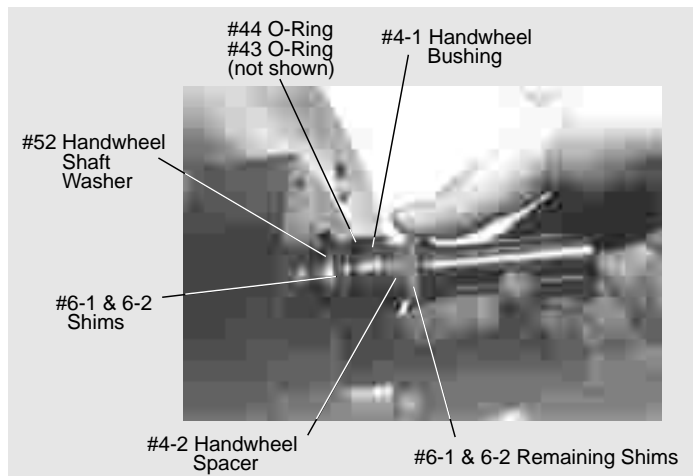

Figure 29 - Shimming parts & their order of assembly
4. After Clutch Latch #32-1 is positioned on the Clutch Bearing #19-2 as described in step 2 and the Handwheel Shaft Assembly is inserted into the actuator Housing as described in step 3, insert the Handwheel Shaft Washer #52 (see figure 29) into the actuator Housing .